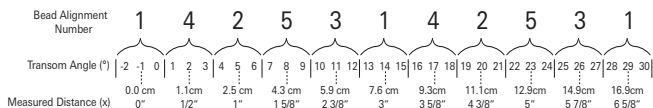
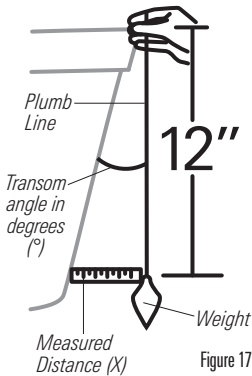

Figure 16
Figure 17
- If you already know your transom angle**, refer to the chart below for the initial position to use to set the ratchets (Figure 16). If your transom is angled at 14 degrees (a common transom angle for many boats) use position 1 for the ratchets. In either case, go to step 2.
- If you do not know your transom angle**, measure it using a plumb line (weighted nylon string or monofilament line) exactly 12 inches (30.48 cm) long. Hold the top of the plumb line against the top of the transom with your finger, and wait until the line hangs straight down (Figure 17). Using a ruler, measure the distance from the **bottom** of the plumb line to the back of the transom, then use the chart (Figure 16).
NOTE: It is important to take your measurement in the location shown in Figure 17, from exactly 12 inches (30.48 cm) down from the top of the transom.